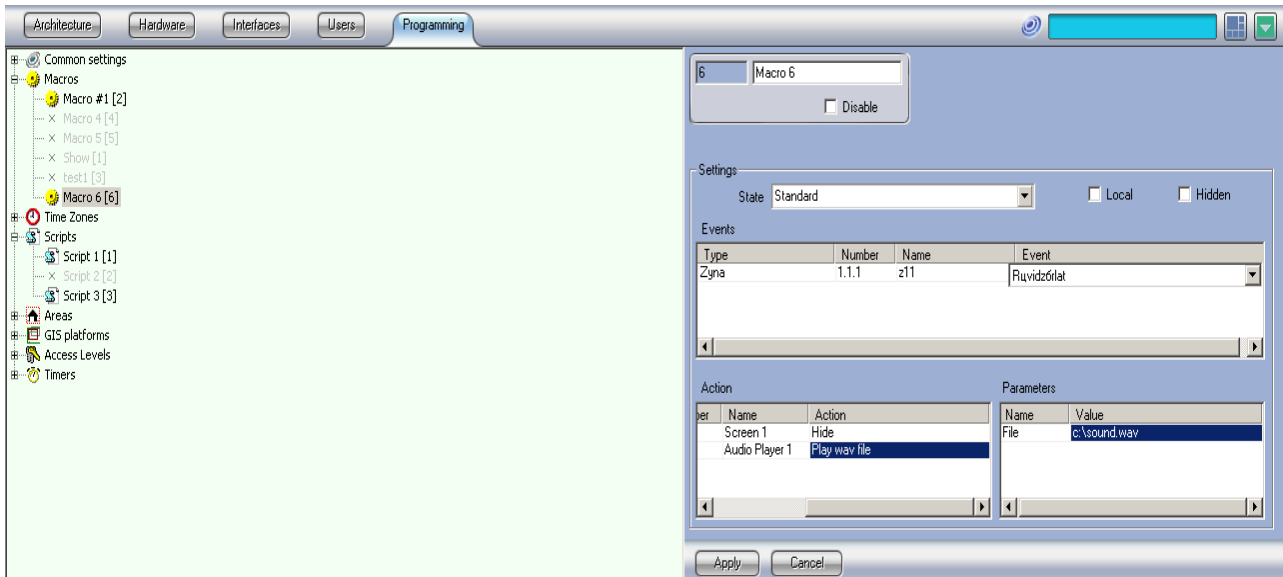

fig. 49
- In the “Action” table set the cause effect that should be triggered in case of the events in the event table. In our example we will program the “Screen” to “Show” and the “Audio player” to play a “.wav” file located in the “c:” partition (the audio player recognizes only .wav format) (fig. 49);